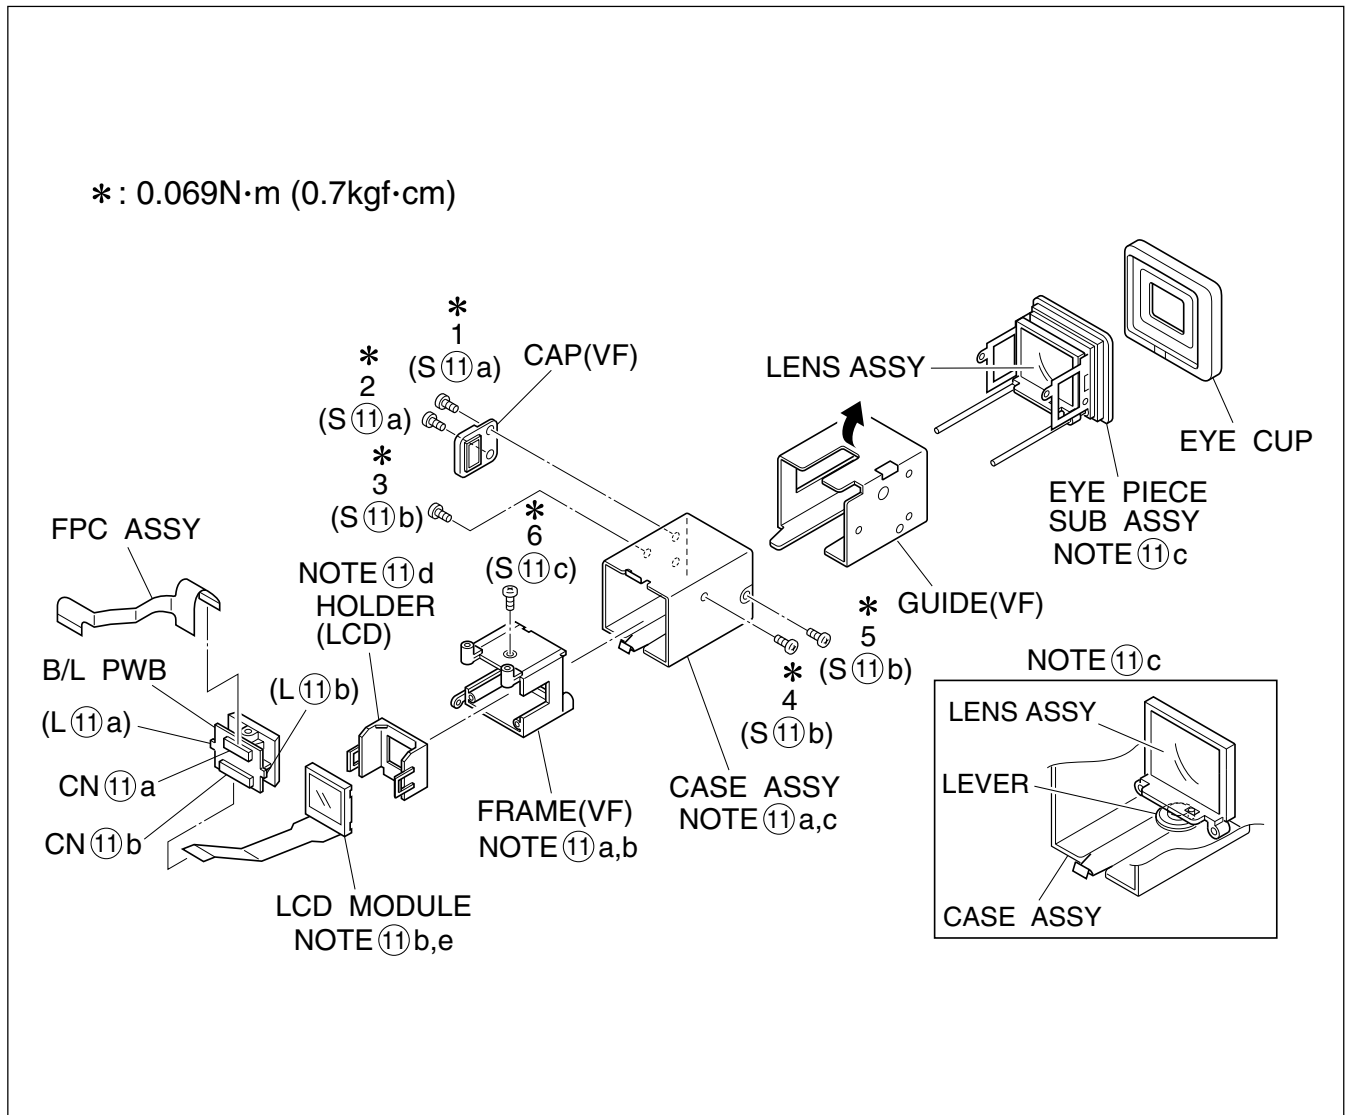

Fig. 1-5-1
NOTE ⑪b: Refer to Fig. 1-5-1 for the disassembly method.